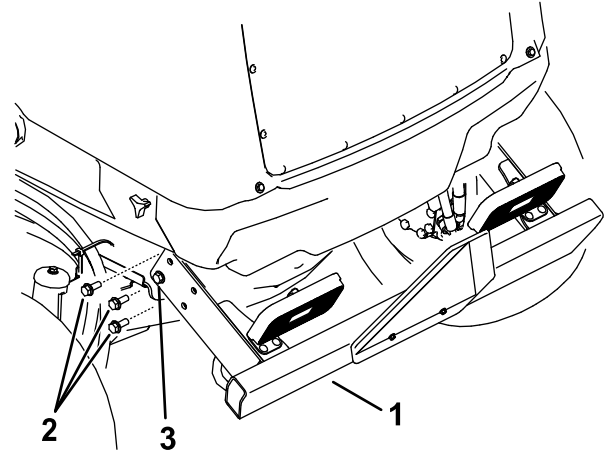

Figure 107
2. Remove the three 3 flange screws from each side of the rear bumper as shown in Figure 107.
6. Raise the rear bumper into position and install the flange screws. Tighten all the flange screws securing the rear bumper to the frame (Figure 107).